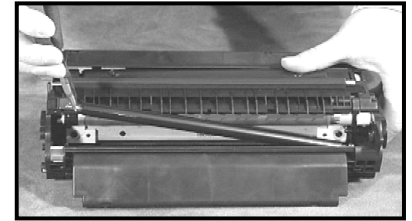

Figure 5
4. Next, remove the PCR. Be sure to grab it by the axle ends and not the rubber coating (fig. 5).